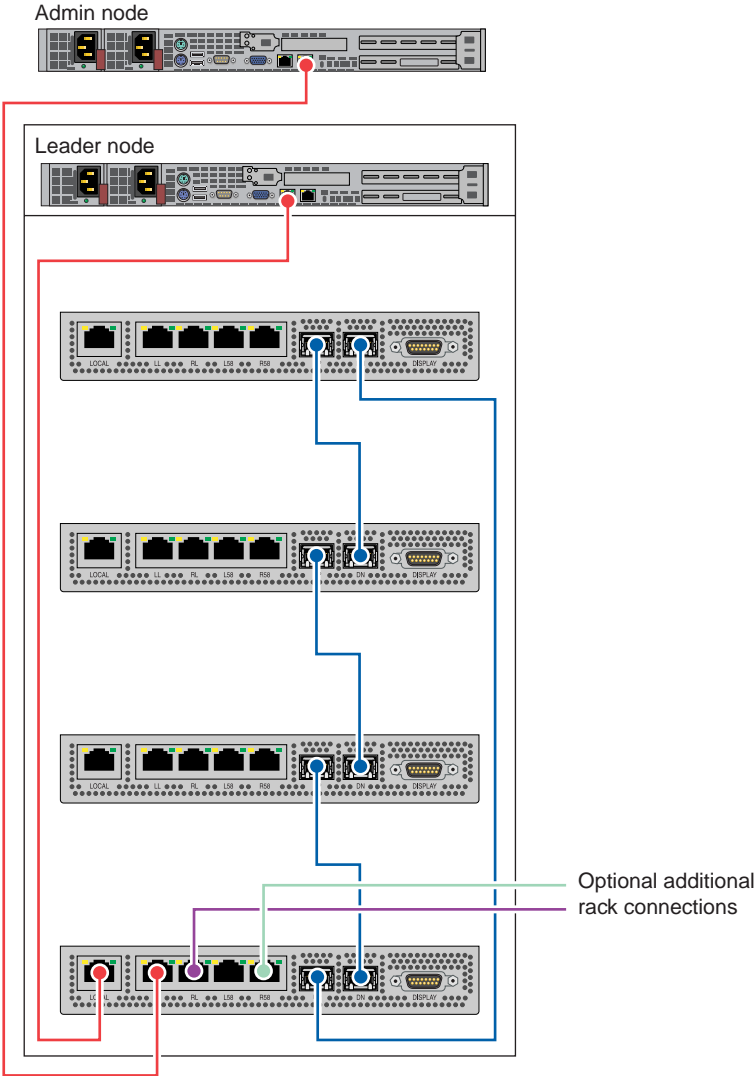

Figure 5-2 Admin/Leader to CMC Cable Examples
2. Disconnect both power cables, see Figure 5-2 on page 233 for server connection locations.